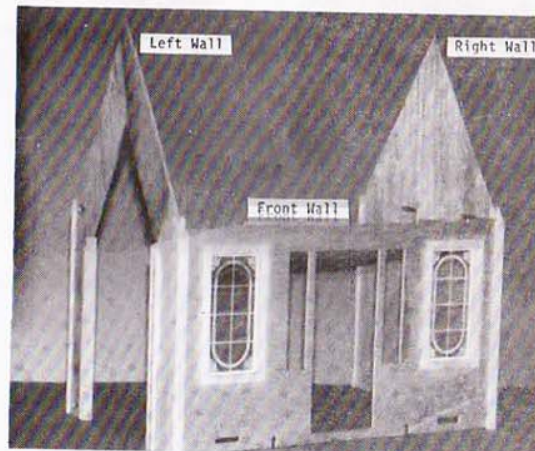

Figure 4
4. Glue the front wall (with the good side out) into the grooves of the S5-2 on the Right and Left Walls as in Figure 4.